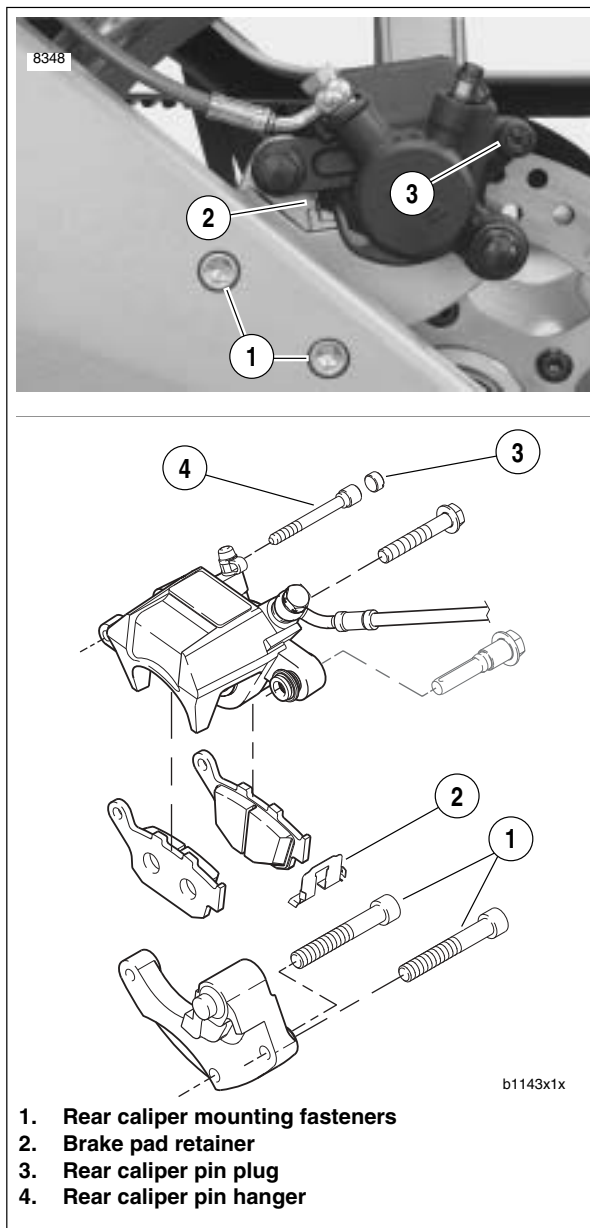

Figure 1-17. Rear Brake Caliper
1. See Figure 1-17. Remove rear caliper pin plug (3) and loosen pin (4).
3. Remove two mounting fasteners (1) securing brake caliper and carrier assembly to swingarm.
5. Remove pin hanger (4).
1. See Figure 1-17. Check that retainer (2) is present.
5. See Figure 1-17. Install hanger pin (4) making sure pin engages hole on both pads.
7. Apply 271 Loctite to two mounting fasteners (1) and install through swingarm into carrier and tighten to 24-26 ft-lbs (32.5-35 Nm).
9. Install pin plug (3). Tighten plug to 24 **in-lbs** (3 Nm).